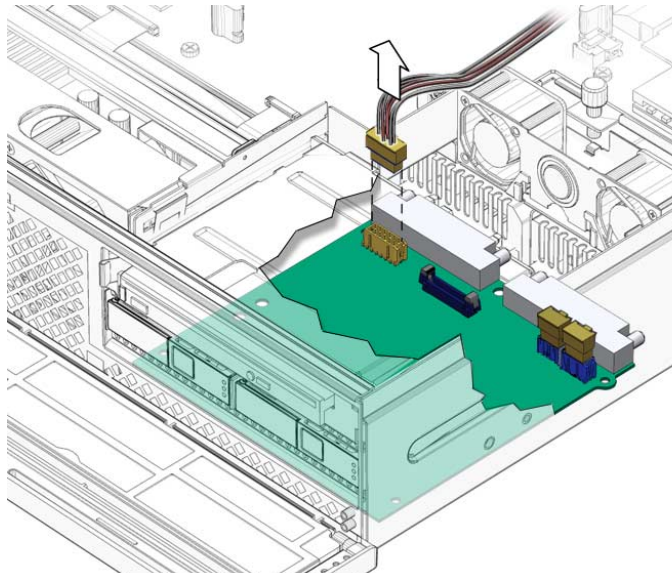

FIGURE 3-30 Disconnecting the System Fan Assembly Cable
4. **Disconnect the fan assembly cable at connector J3 on the power board by depressing the connector retention latch while pulling the connector housing straight up (FIGURE 3-30).**